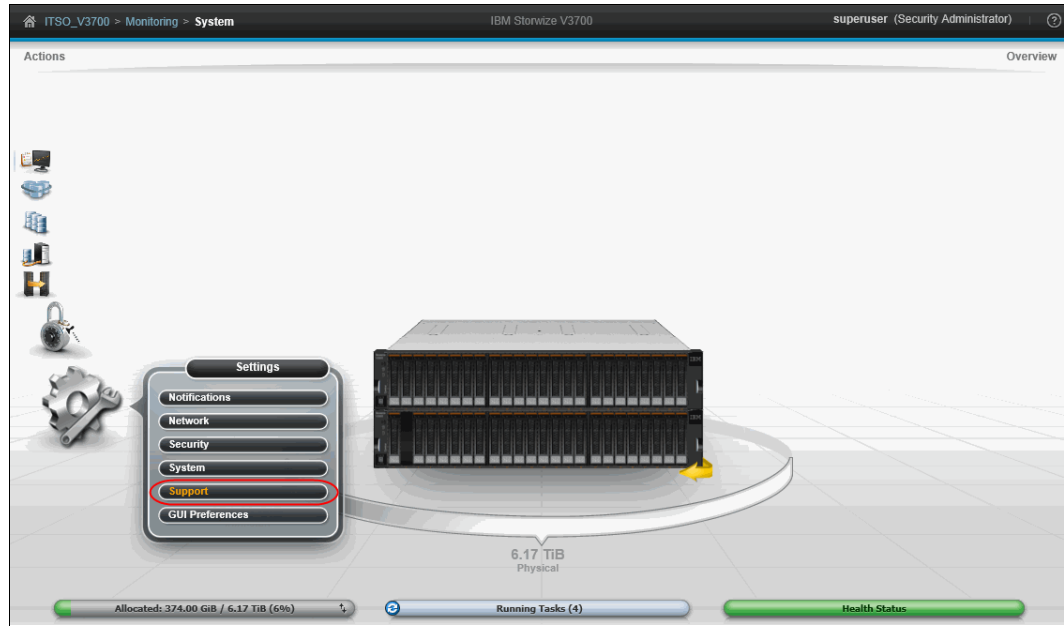

Figure 9-25 Settings menu
1. Click **Settings** → **Support**, as shown in Figure 9-25.